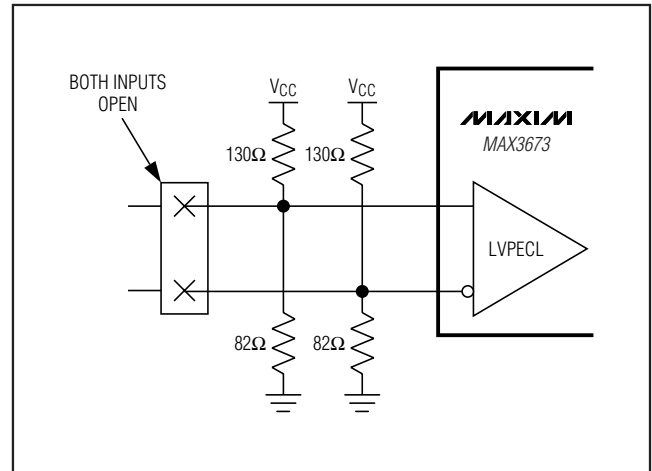

Figure 3. Positions for Open-Circuit Detection
- Both inputs (REFCLKx , $\overline{\text{REFCLKx}}$) are disconnected from the source and have 130Ω to V_{CC} and 82Ω to GND at each input. See Figure 3.